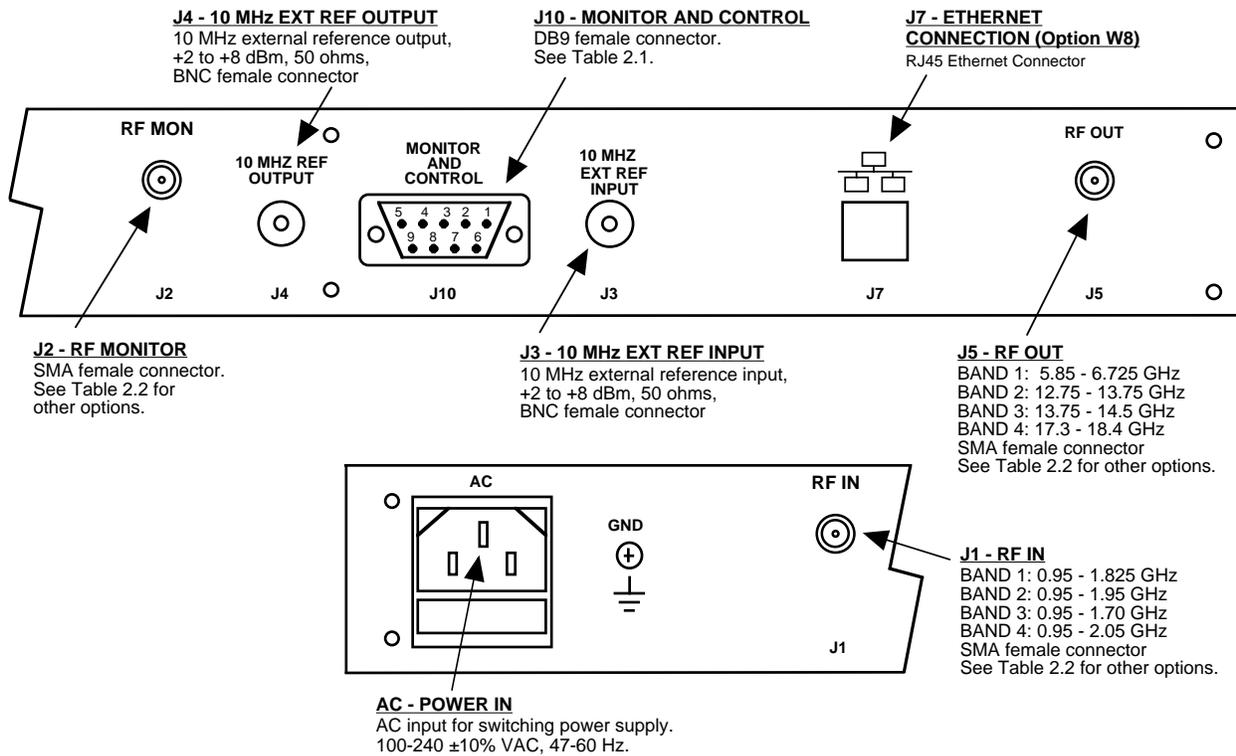

FIGURE 2.2 3115-41-184 Rear Panel Inputs and Outputs
2.2 Rear Panel Input / Output Signals - Figure 2.2 shows the input and output connectors on the rear panel.
1. Connect a -50 dBm to -30 dBm signal to RF-BAND INPUT (J1) Figure 2.2.